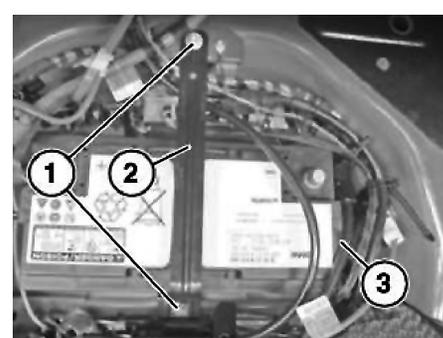

Fig. 4 Battery retaining bracket removal
5. Remove screws (1), and remove battery retaining bracket (2), **Fig. 4**.
6. Detach battery vent hose (3), **Fig. 4**.
4. Connect battery vent hose (3), **Fig. 4**.
5. Install battery retaining bracket (2) and screws (1), **Fig. 4**. **Torque** screws to 88 inch lbs.